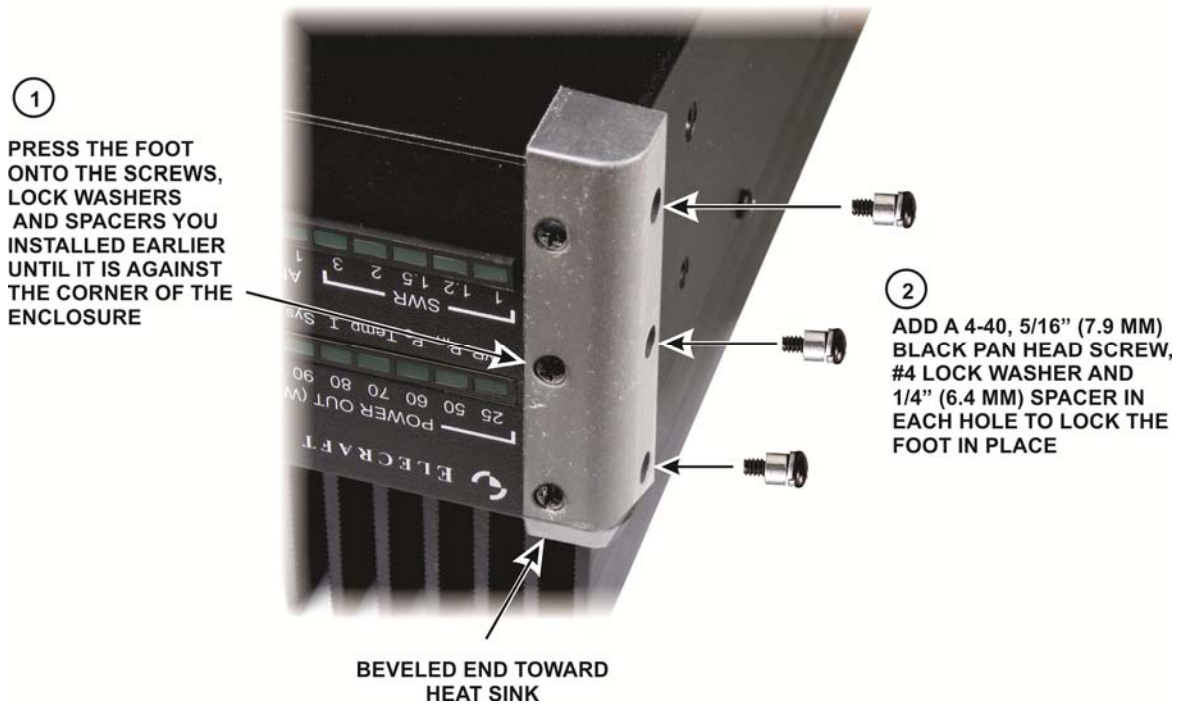

Figure 20. Installing the Feet.
□ Install a foot at each corner of the enclosure as shown in Figure 20. When the foot is pressed over the screws, lock washers and spacers you installed earlier and against the corner of the enclosure, the three remaining holes in the foot will line up with threaded bushings in the U-Cover to receive the additional three screws, lock washers and spacers.